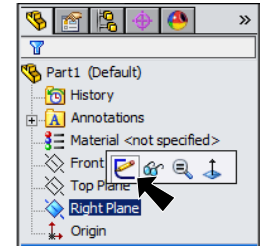

Fig. 1
Step 2. Click **Right Plane**  in the Feature Manager and click **Sketch**  from the Context toolbar, **Fig. 1**.